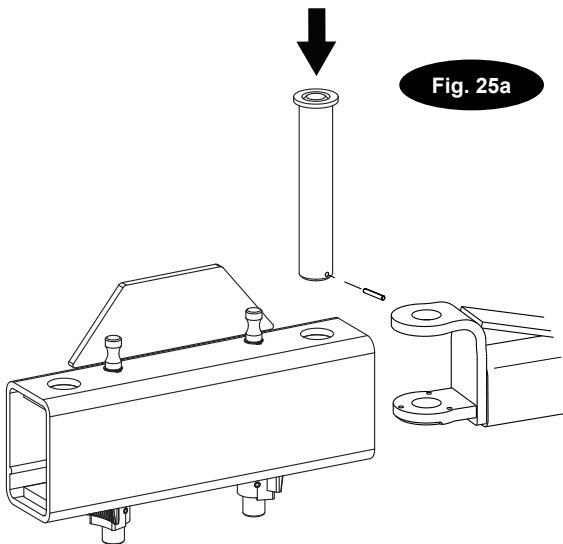

Fig. 25a
**20. Arms & Restraints:** Before installing arms, raise carriages to a convenient height. Grease swivel arm pins and holes with Lithium grease. Slide arm into yoke, Fig. 25a. Install 1-3/4" diameter arm pin(s) and arm stop, Fig. 25a. Install Spring Pin to secure arm pin in place, Fig. 25a.